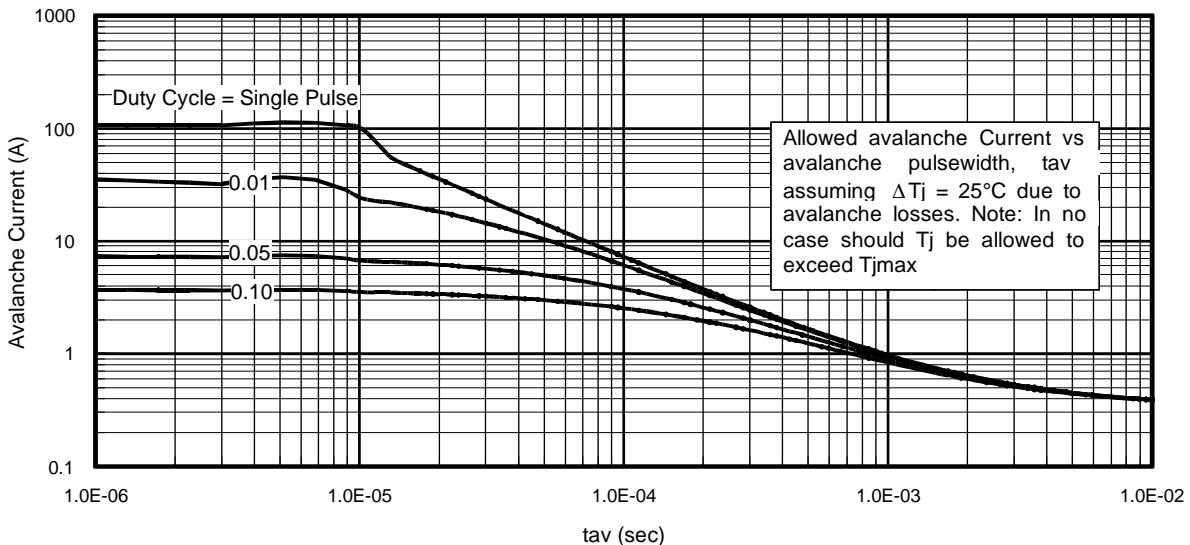

Fig 14. Typical Avalanche Current Vs.Pulsewidth
Notes on Repetitive Avalanche Curves , Figures 14, 15:
7. ΔT = Allowable rise in junction temperature, not to exceed T_{jmax} (assumed as 25°C in Figure 14, 15).